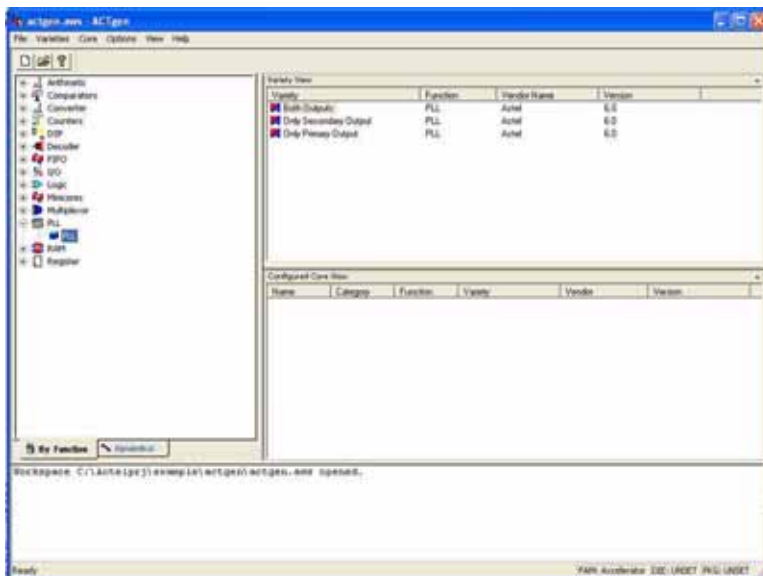

Figure 3-7. PLL Macros
3. Select *PLL* macros in the ACTgen GUI, as shown in Figure 3-7.